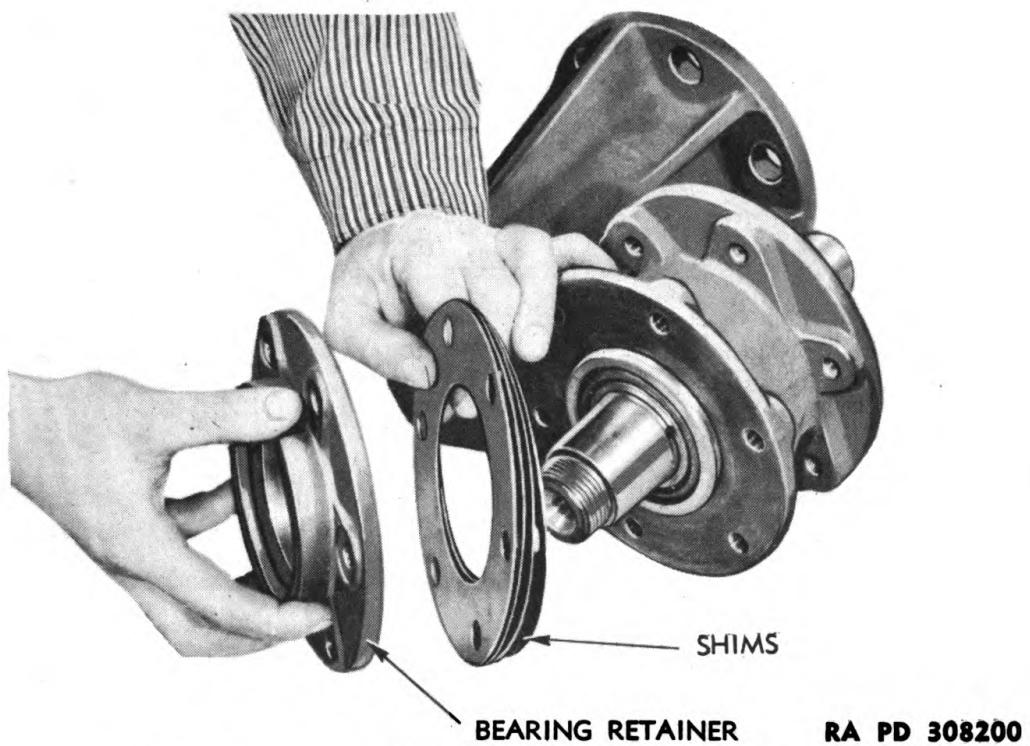

Figure 98 — Installing Shims and Bearing Retainers
(3) **INSTALL BEARING RETAINERS.** Press oil seals into retainers with lips of seals facing inner side of retainer, then install bearing retainers on sides of bracket with six cap screws with lock washers in each. Install shims totaling approximately 0.060 inch in thickness under each retainer (fig. 98). Tighten cap screws securely, then test bearing adjustment. Adjust bearings so there is no end play in shaft, yet shaft will roll quite freely when turned by hand. This is done by removing the retainers and adding shims behind retainers if bearings are too tight or removing shims if bearings are too loose. Always add or remove an equal amount of shims from both sides to insure centering of roller in support. Always test bearing adjustment with retainer cap screws drawn tight.